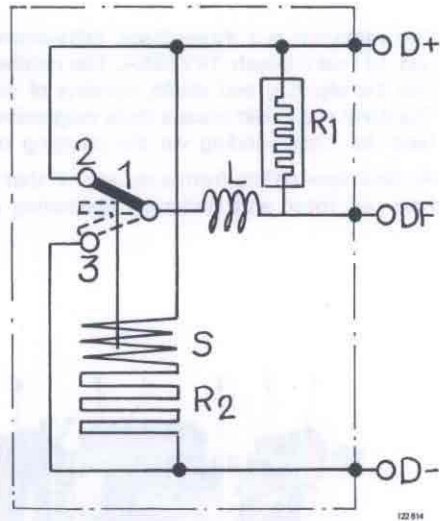

Fig. 32-5. Charging regulator internal wiring
It consists of a contact system which consists of 1, a movable contact, 2, a lower contact, 3, an upper contact, see Fig. 32-5.
When the rotor rotates, alternating current is formed in the rotor. Most of the current is rectified by the positive and negative diodes and the direct current produced is led via 61/D+ on the alternator to the battery and a power consumer (consumers) if switched on. A small part of the current is rectified by the magnetizing diodes and is led via 61/D+ to the charging regulator and then onto the rotor winding. The cycle is repeated until the regulating voltage has been reached. When this has been reached, contact is broken between 1 and 2 on Fig. 32-5. This forces the magnetizing current to the rotor winding to pass resistance  $R_1$ , Fig. 32-5. The voltage rises in spite of this, the armature is drawn further down in the voltage coil and the movable contact meets the upper contact (3), Fig. 32-5. This earths the field winding at both ends and the voltage drops. The cycle is repeated continuously so that voltage is maintained constant.